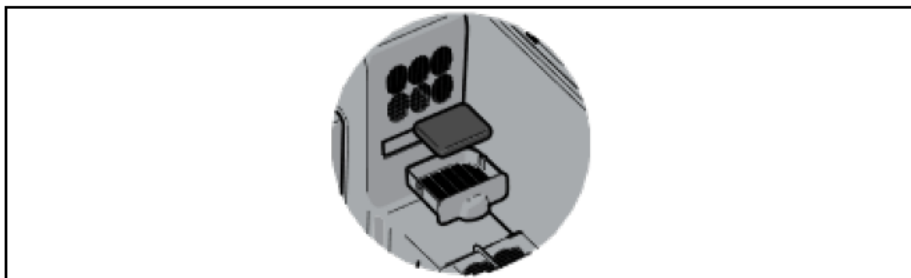

Figure 19 Filter bag removal from drawer
2. With the drawer removed (Figure 19), remove the old filter and discard. The filter must be disposed of in compliance with any applicable local/regional/federal/international law and regulations.